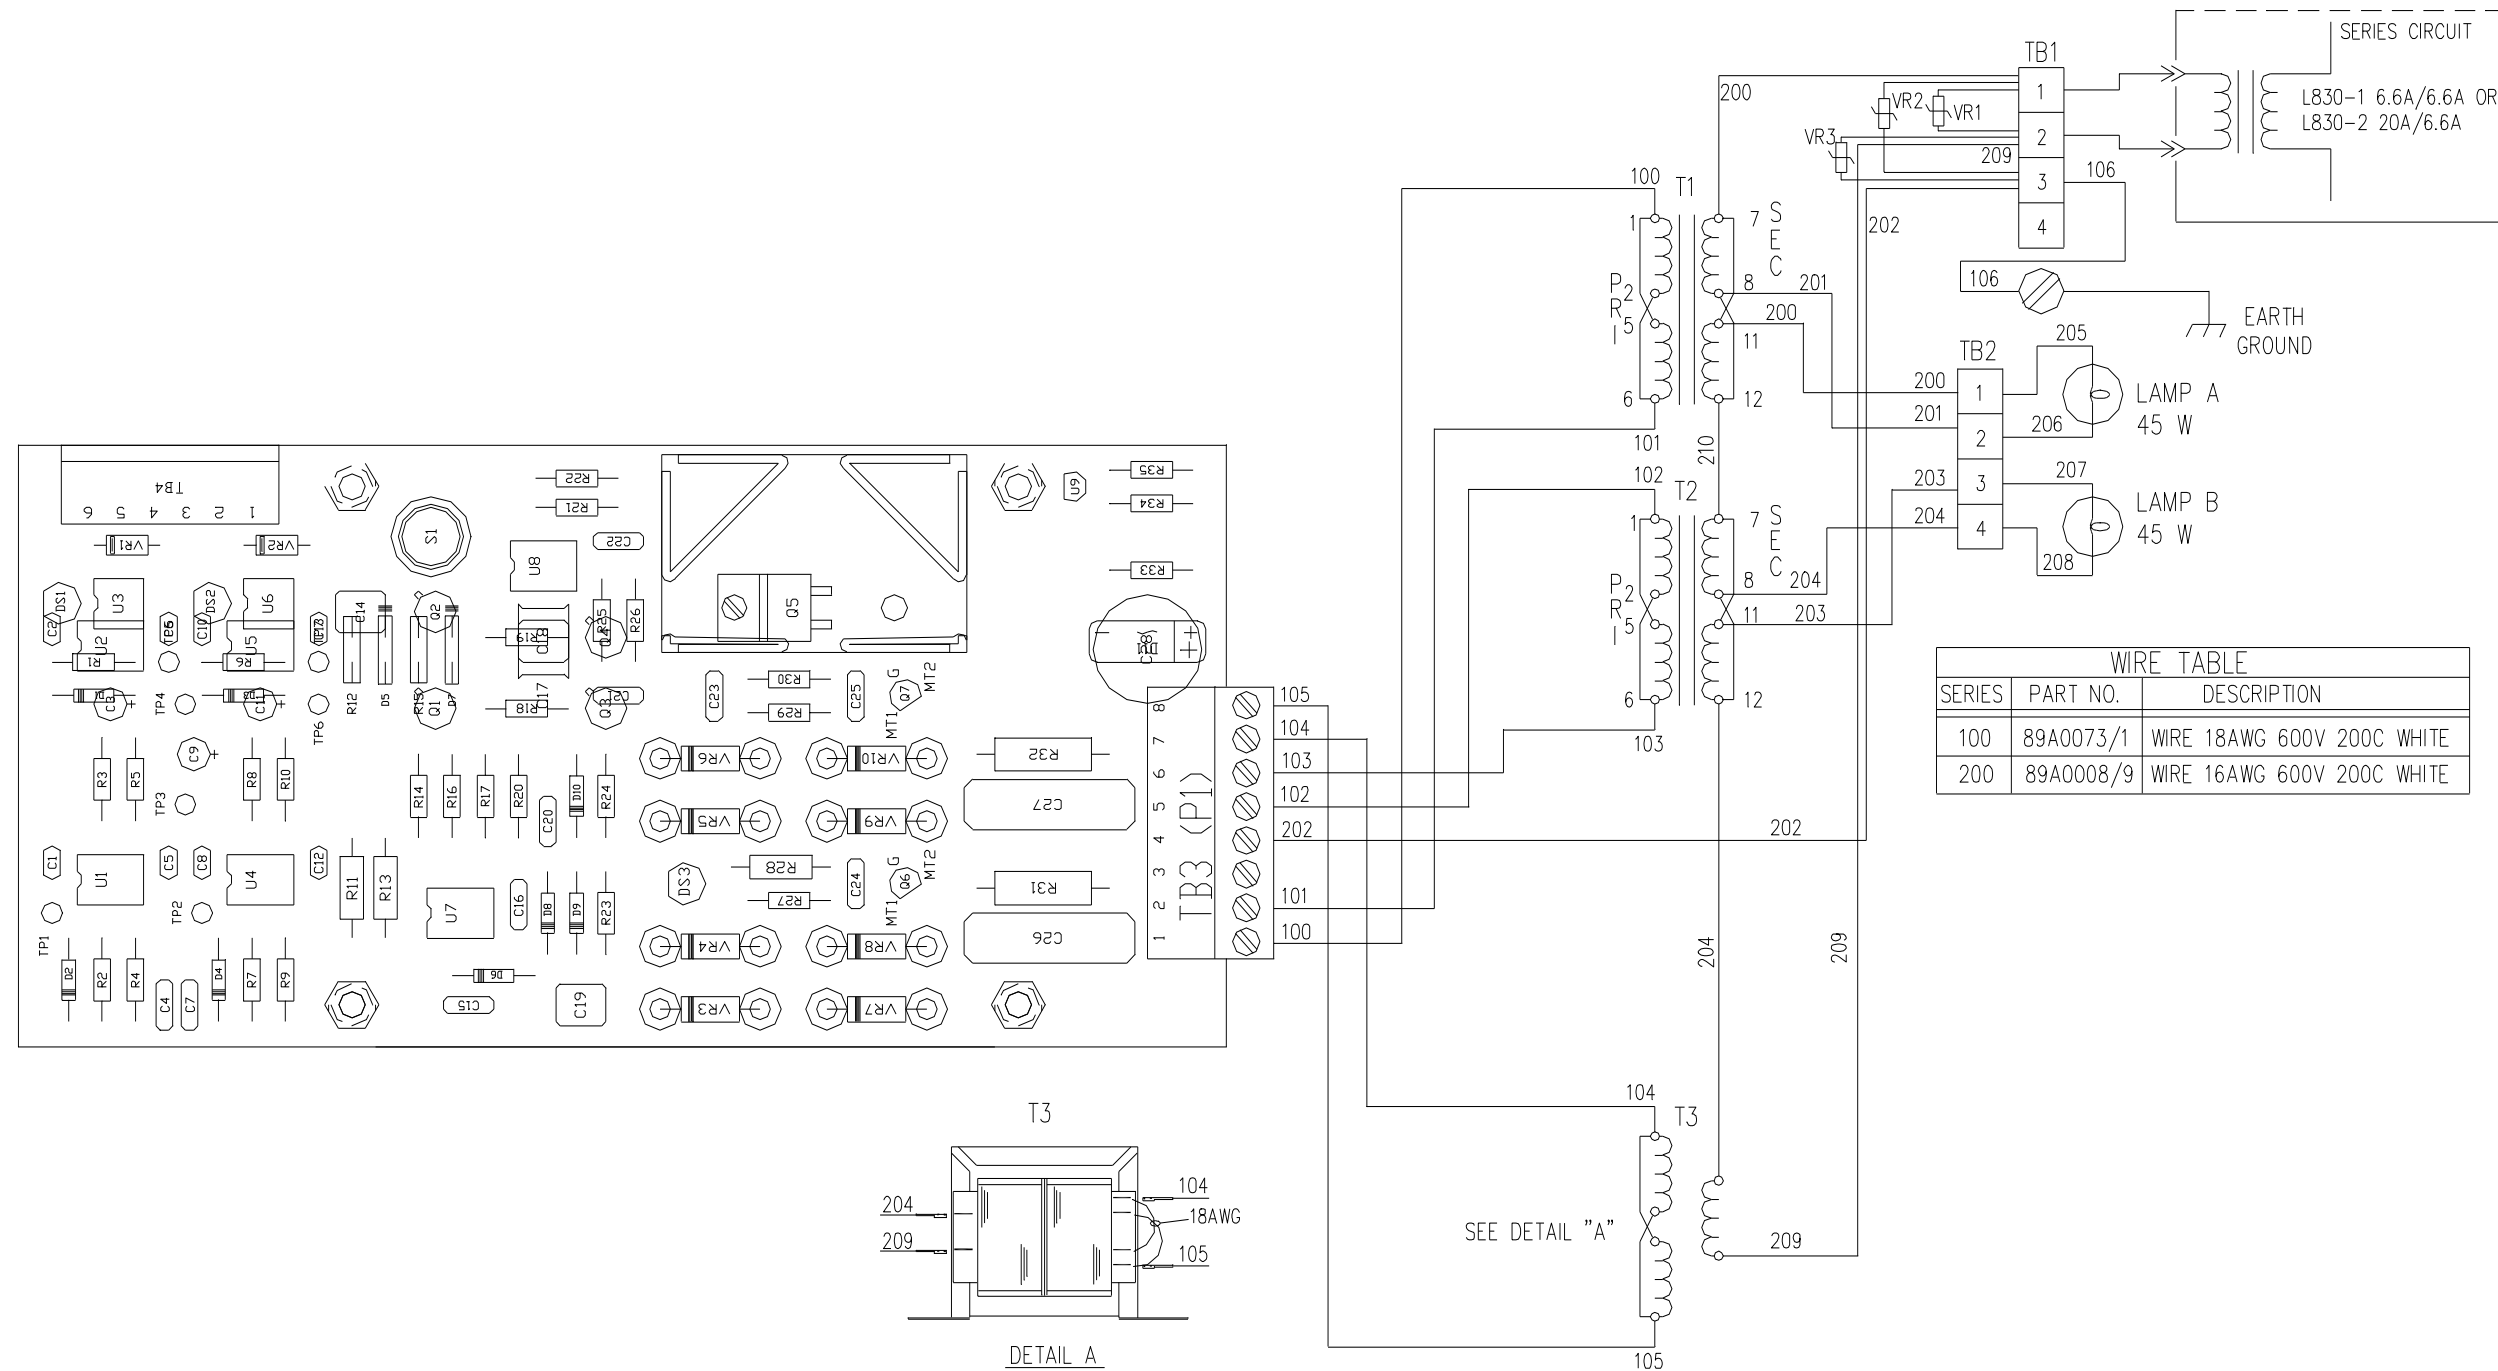

Figure 1. L-804 Wiring Schematic
- d. Connect the new cordset and lamp leads to the control panel (see Figures 1 and 2 located at the end of this service bulletin).
- e. Replace the lamp bar and connect the lamp leads to the two lamps from the terminal block (see Figures 1 and 2 located at the end of this service bulletin). Position the lamp bar against the brackets and fasten them in place with mounting screws.